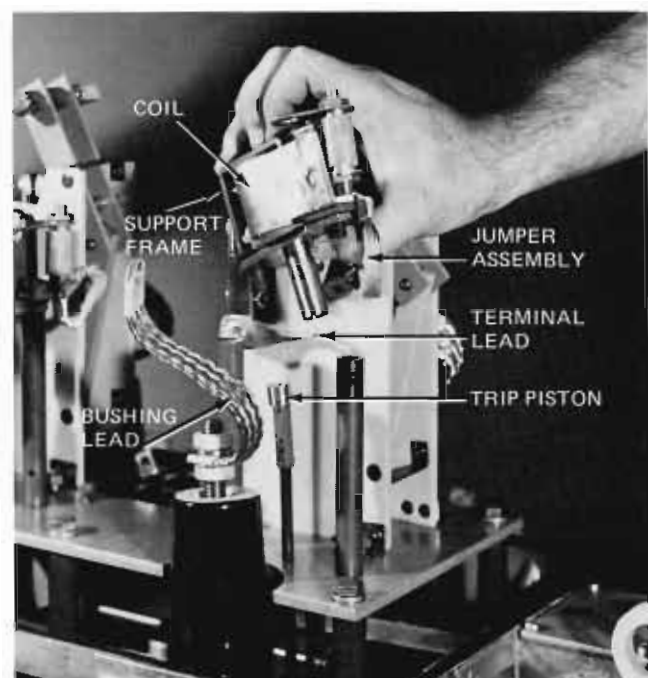

Figure 3
2. Lift off support frame and coil as shown in Figure 3. Remove the spring and plunger from inside the coil.